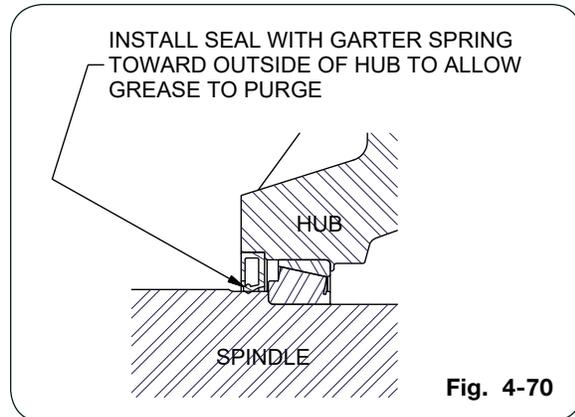

Fig. 4-70
7. Remove seal and inspect bearings, spindle washer, castle nut and cotter pin. Replace if necessary. Pack both bearings with approved grease and reinstall inner bearing. Install new seal in hub with garter spring facing the outside of hub by tapping on flat plate that completely covers seal while driving it square to hub. (Fig. 4-70) Install until flush with back face of hub. Using a safe lifting device rated for 200 lbs., install hub assembly onto spindle. Install outer bearing, spindle washer and castle nut.